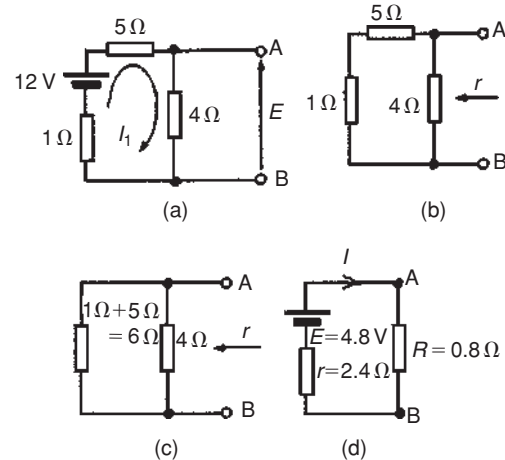

Figure 13.40
- (i) The $0.8\ \Omega$ resistor is removed from the circuit as shown in Fig. 13.40(a).
P.d. across $4\ \Omega$ resistor $= 4I_1 = (4)(1.2) = 4.8\text{ V}$. Hence p.d. across AB, i.e. the open-circuit voltage across AB, $E = 4.8\text{ V}$
- (iii) Removing the source of e.m.f. gives the circuit shown in Fig. 13.40(b). The equivalent circuit of Fig. 13.40(b) is shown in Fig. 13.40(c), from which, resistance
- (iv) The equivalent Thévenin's circuit is shown in Fig. 13.40(d), from which, current